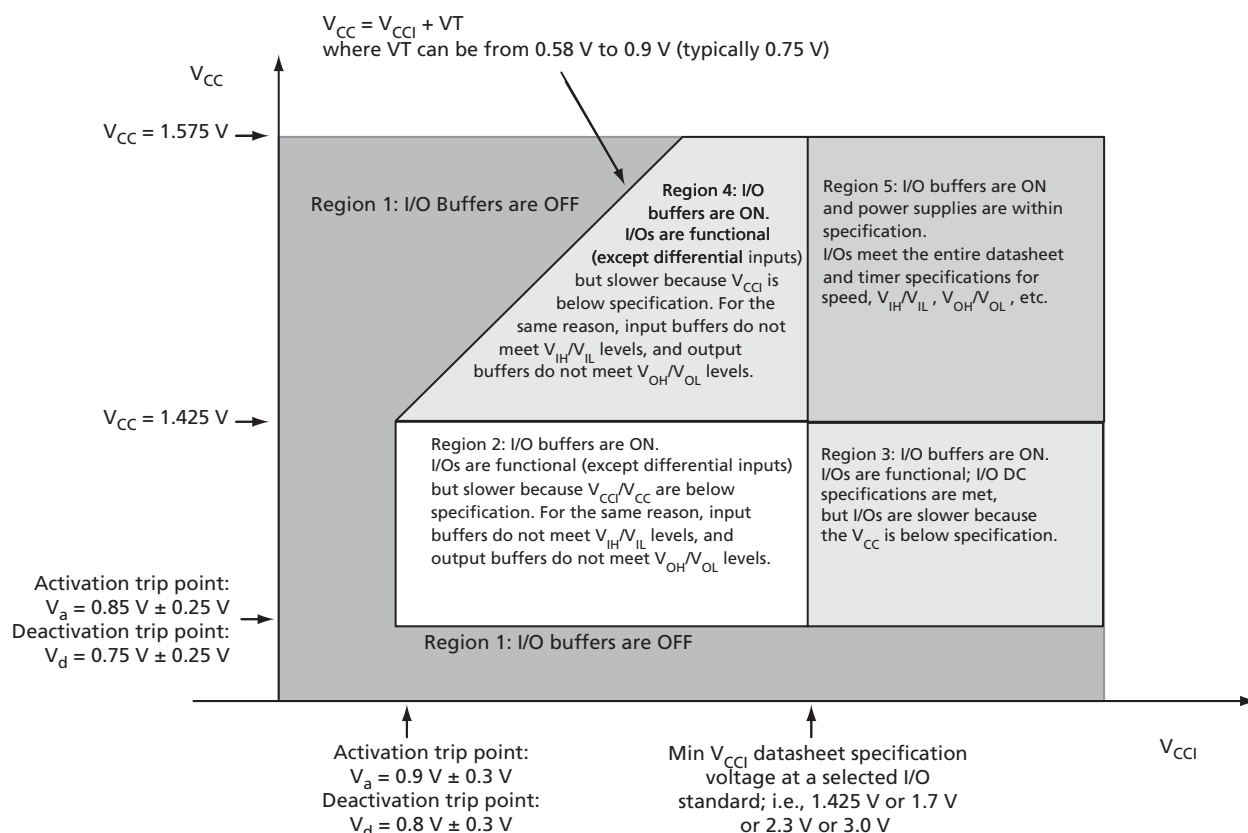

Figure 2-2 • Devices Operating at 1.5 V Core – I/O State as a Function of V_{CCI} and V_{CC} Voltage Levels
Sophisticated power-up management circuitry is designed into every ProASIC®3 device. These circuits ensure easy transition from the powered-off state to the powered-up state of the device. The many different supplies can power up in any sequence with minimized current spikes or surges. In addition, the I/O will be in a known state through the power-up sequence. The basic principle is shown in Figure 2-2 on page 2-5 and Figure 2-3 on page 2-6.
1. V_{CC} and V_{CCI} are above the minimum specified trip points (Figure 2-2 on page 2-5 and Figure 2-3 on page 2-6).
Actel recommends using monotonic power supplies or voltage regulators to ensure proper power-up behavior. Power ramp-up should be monotonic, at least until V_{CC} and V_{CCPLX} exceed brownout activation levels. The V_{CC} activation level is specified as 1.1 V worst-case (see Figure 2-2 and Figure 2-3 on page 2-6 for more details).